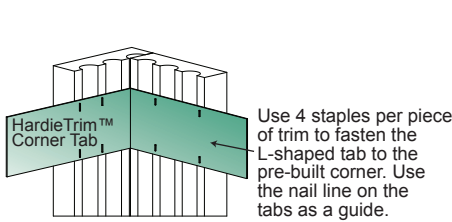

Figure 4
- Attach HardieTrim Corner Tabs to the back side of the trim using eight(8) - 18 ga. 1/2"L x 1/4"W narrow crown corrosion resistant staples using a pneumatic stapler. Ensure the HardieTrim Corner Tabs are fastened tight and straight to the trim boards. (Figure 4)